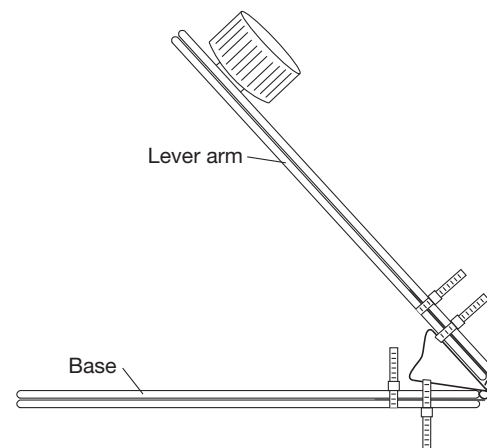

Figure 8.
9. Attach the bottle cap to the top of one tongue depressor so the edge of the cap is about 1 cm from the end of the tongue depressor (see Figure 8). Press the cap down firmly.